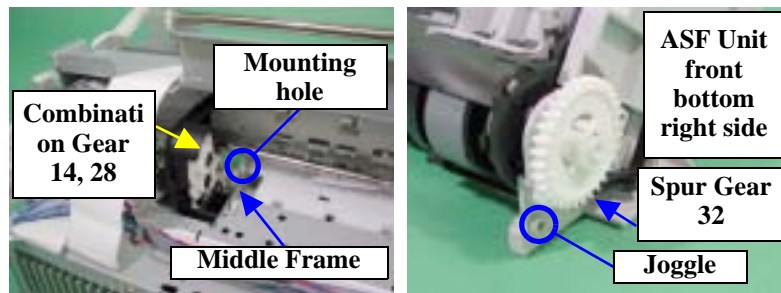

Figure 4-26. Reinstalling the ASF Unit 1
- Insert the round joggle on the ASF Unit front bottom right side, as viewed from the ASF Unit front, into the mounting hole of the Middle Frame located on the left of the printer center as viewed from the printer rear. Refer to Figure 4-26, "Reinstalling the ASF Unit 1".